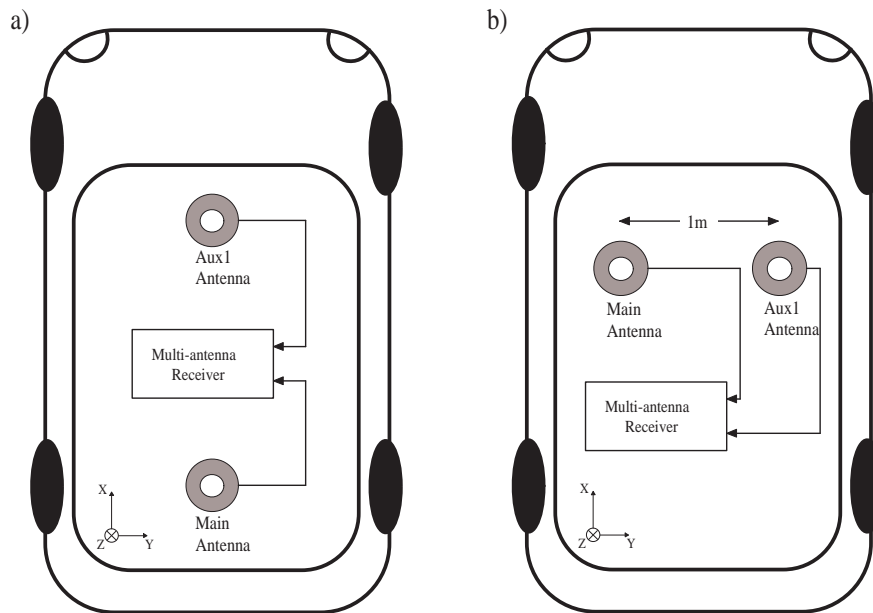

Figure 3-3: Multi-antenna attitude determination setup. a) default configuration. b) example of non-default configuration.
Another way of determining the heading and pitch angles of a vehicle is to connect two antennas (main and aux1) to a multi-antenna receiver. This is illustrated in figure 3-3.
1. Attach two antennas to your vehicle. The default antenna configuration is as depicted in figure 3-3 a). It consists in placing the antennas aligned with the longitudinal axis of the vehicle. If such configuration is not possible, you will have to specify the relative position of your antennas, as explained below. For best accuracy, try to maximize the distance between the antennas.
3. By default, the attitude angles are computed assuming that the two antennas are aligned with the longitudinal axis of the vehicle, and that the aux1 antenna is in front of the main antenna (see figure 3-3 a)). If you cannot place the antennas in such configuration, the reported attitude angles will be biased. That bias can be removed by telling the receiver where the auxiliary antenna is located in the vehicle reference frame (see appendix A). This is done by specifying the coordinates of the baseline between the main ARP and the aux1 ARP in the X, Y and Z directions. For example, in the configuration b) of figure 3-3, you would issue: